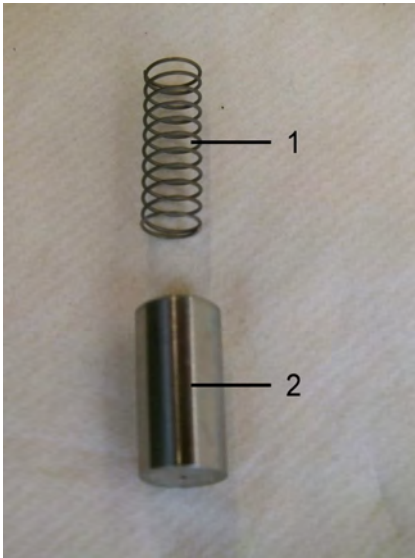

Fig. 38: Spring and float
- 5.** ➤ The inner parts of the flow monitor consist of the spring (Fig. 38/1) and float (Fig. 38/2).